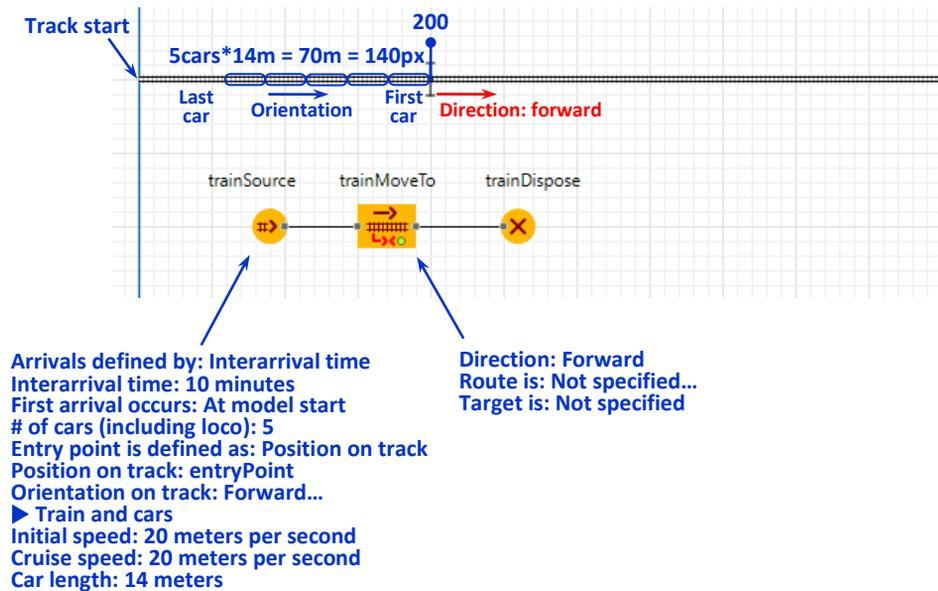

Figure 9.12 The simplest train process flowchart: train appears and moves along the track
5. From the same palette drag three blocks: **TrainSource**, **TrainMoveTo**, and **TrainDispose**. Place them in a sequence and connect as shown in Figure 9.12 (place the blocks close to each other to let them connect automatically).